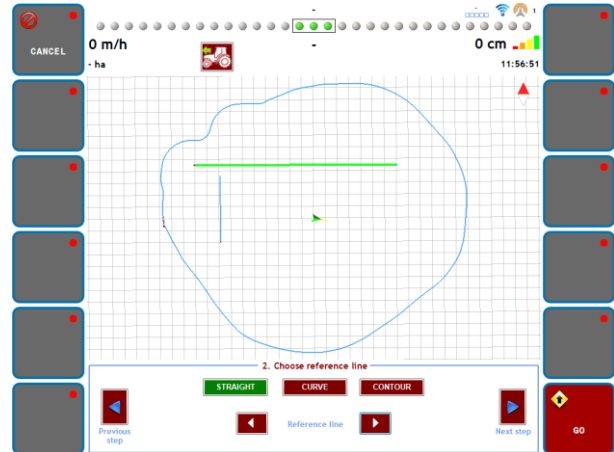

Figure 37 Extra line in contour field.
- If a contour field does not have the correct reference line to define an operation (Figure 37).